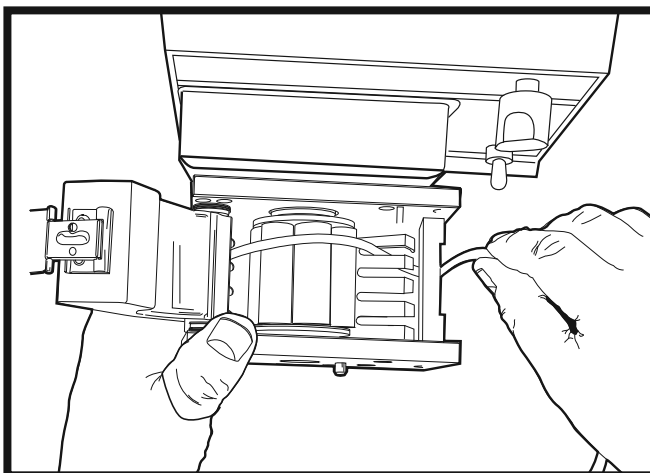

Figure 8. Secure tubing stop collar in corresponding slot.
4. Making sure not to twist tubing, lightly stretch it across rollers to secure tubing stop collar in corresponding slot on the opposite end of Pump Head (latch side) (Figure 8).